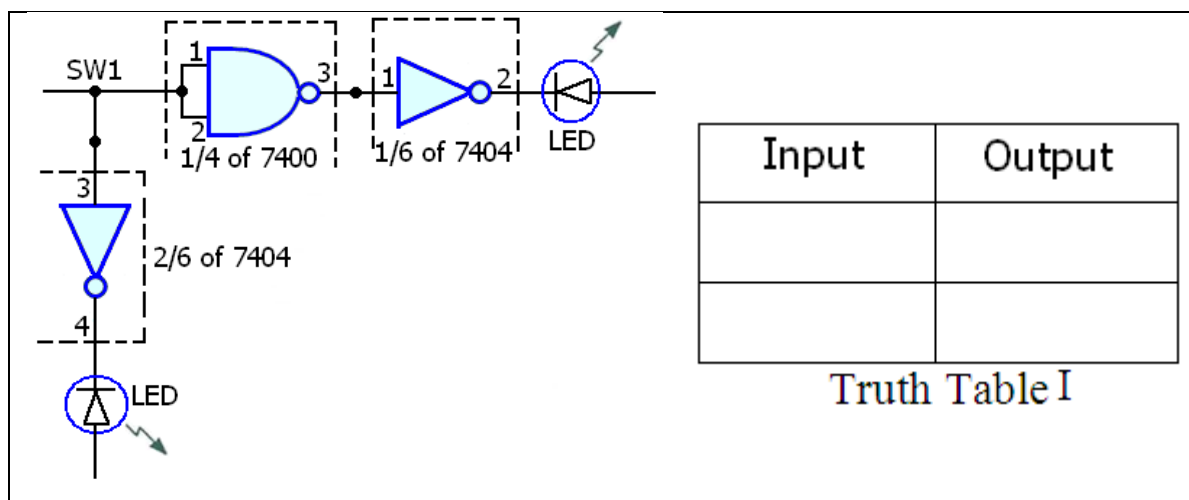

Fig. 1-2 7400 TTL Integrated Circuit used as Inverter
2. Connect one of the four gates in the IC, as shown in Fig. 1-2. The input comes from data switch SW1. You will monitor the input and output states with the L1 and L2 LED indicators and your DC voltmeter.